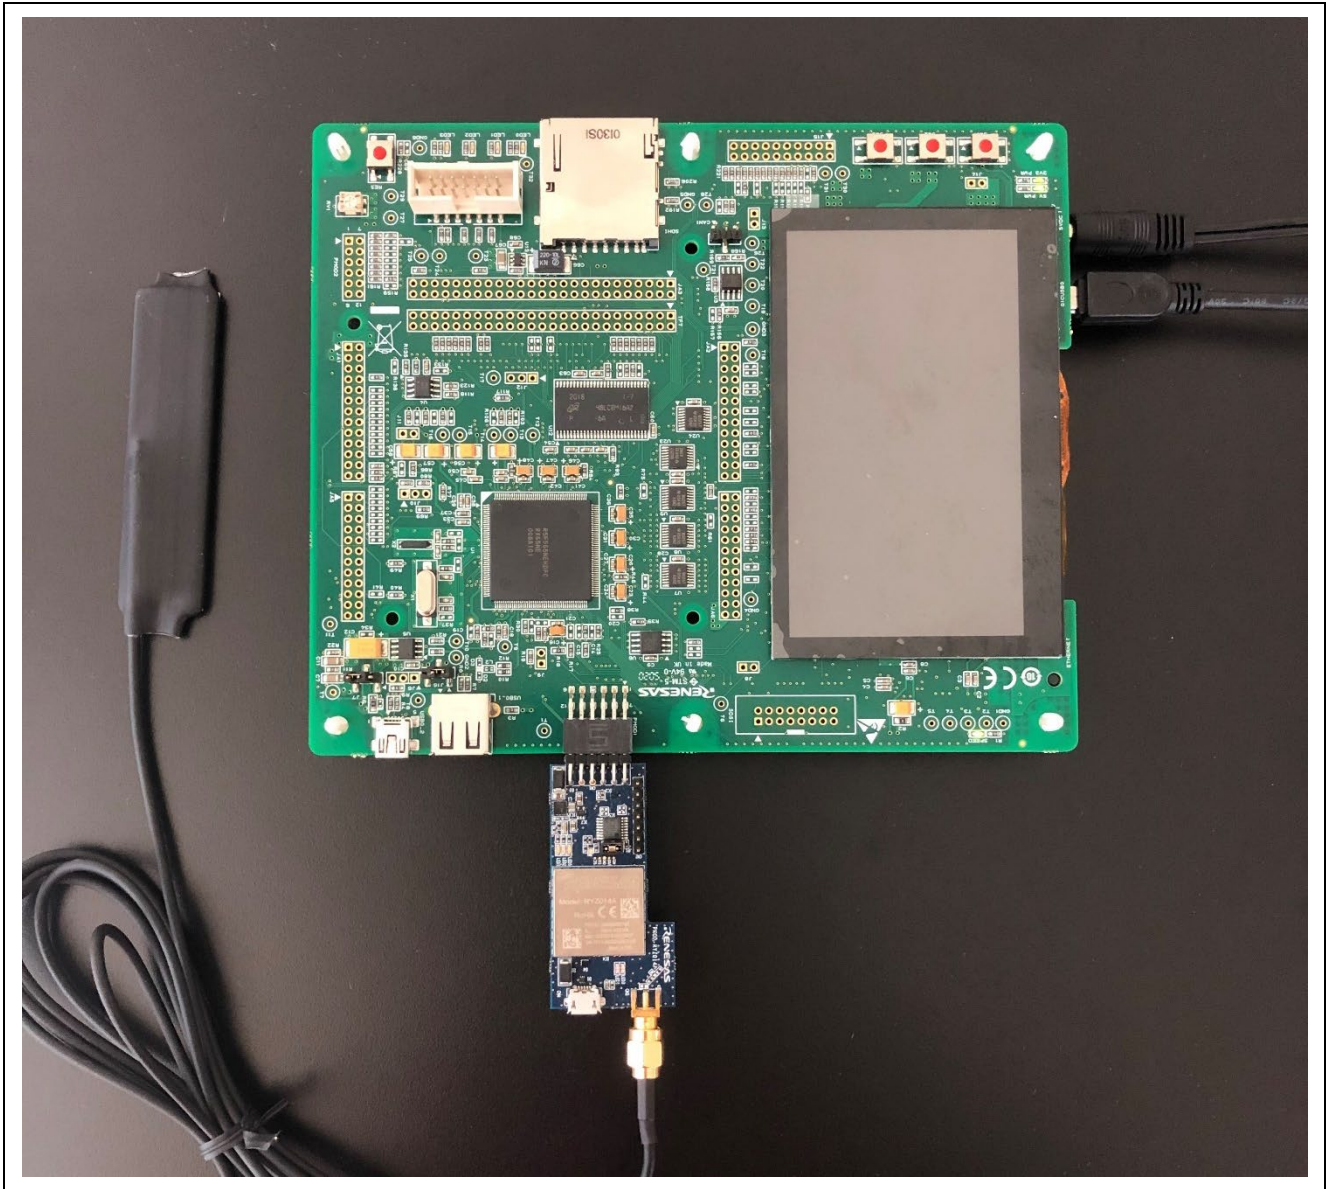

Figure 4. Connections for the RSK-RX65N-2MB Board After Flashing
| Figure 4. Connections for the RSK-RX65N-2MB Board After Flashing | 10 |
- E2 Lite Debugger is disconnected when trying to run the code. Refer to Figure 4.